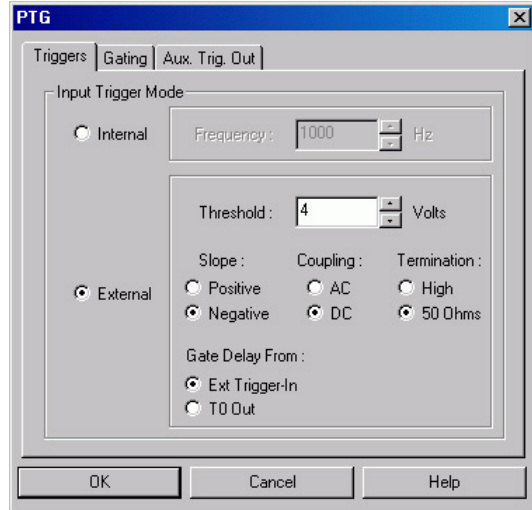

Figure 178. PTG Triggers tab page
3. Select **PTG**. Then click on the **Setup Pulser** button. The PTG dialog (Figure 178) will open. *If PTG is grayed out on the Pulsers dialog, PTG support has not been installed.*